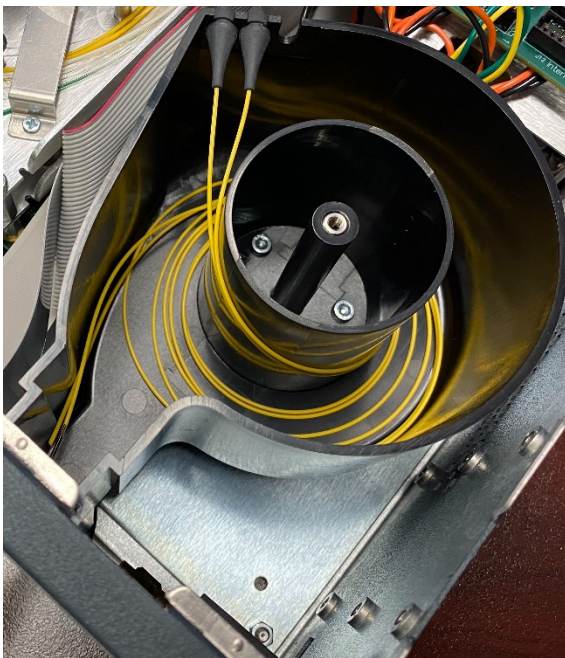
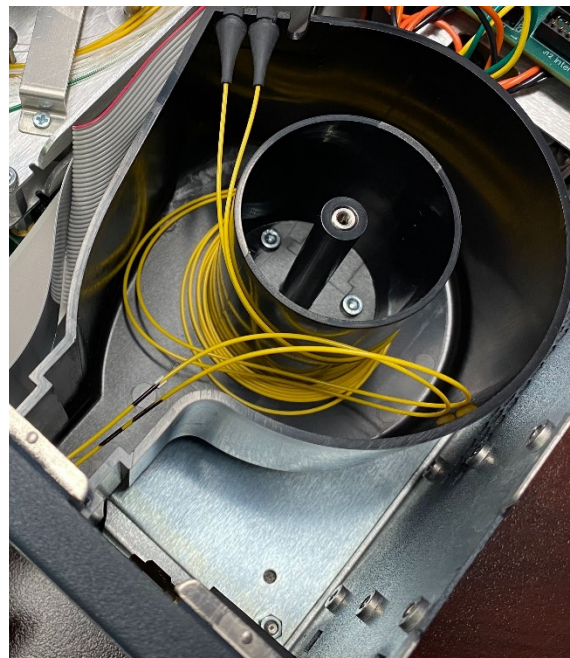

Figure 19: Exposed view of good output fiber management
Figure 20: Exposed view of poor output fiber management
7. Reinstall the output panel with the thumbscrews. To avoid damaging the fibers, keep a clear line of sight to the fiber as it spools back inside the unit. It should lay flat and spool back in without resistance or twisting. Figure 19 shows an exposed view of good output fiber management. Figure 20 shows poor fiber management.